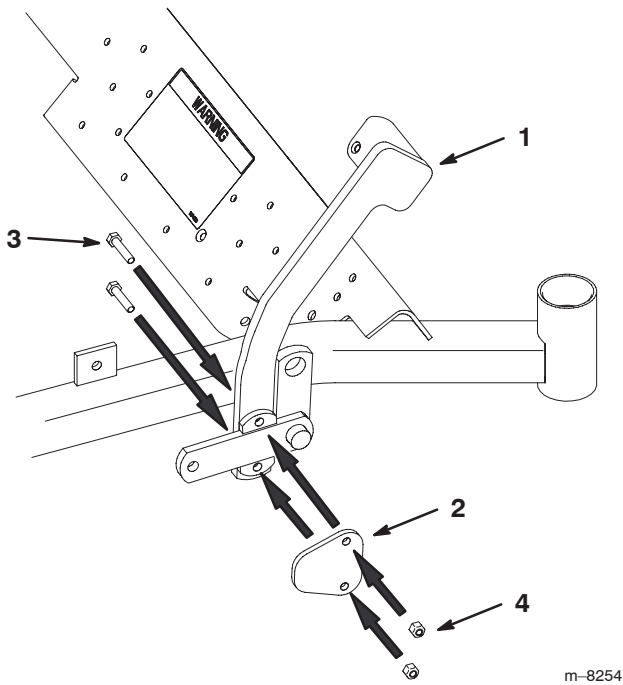

Figure 3
Note: Make sure the strap is installed as shown in Figure 3.
4. Secure the lift assist lever to the lift shaft with the strap, 2 screws (5/16 x 2 inch), and 2 locknuts (5/16 inch) (Fig. 3).